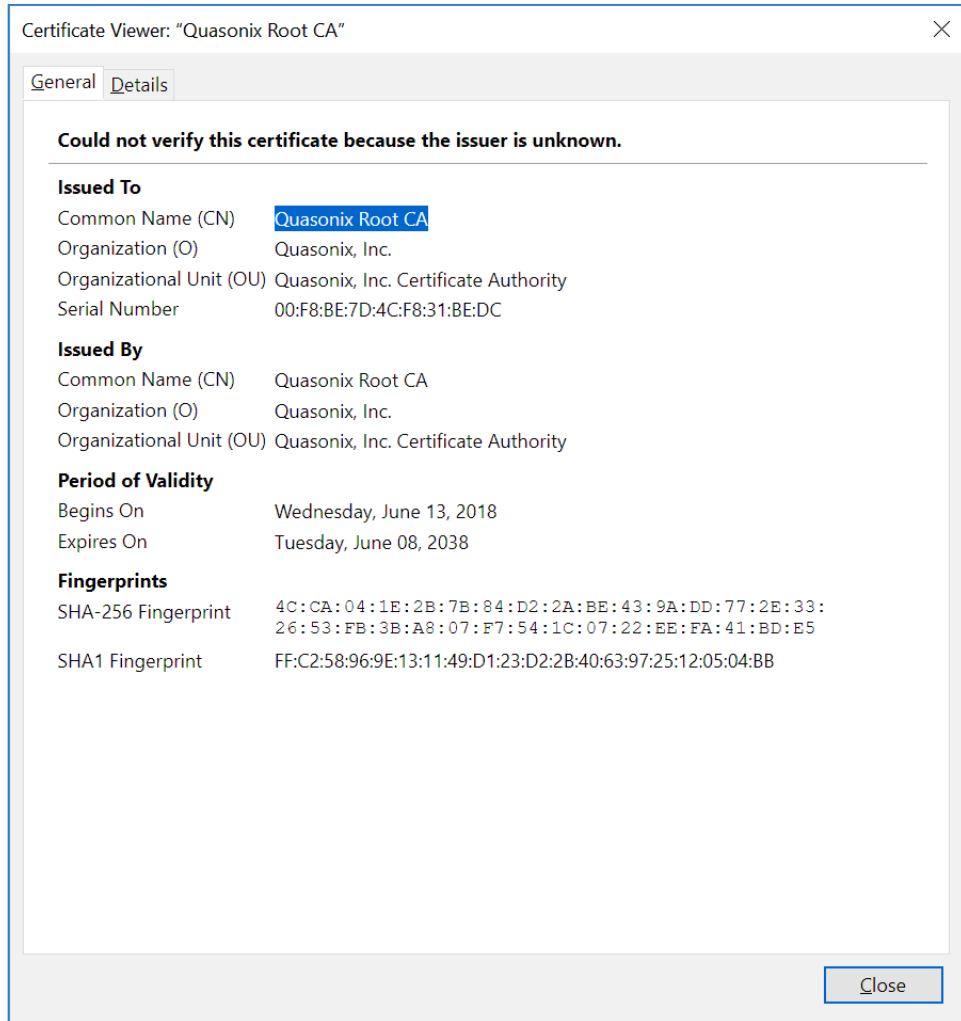

Figure 328: Firefox Certificate Viewer-Quasonix Root CA
8. Click on the View button to examine the certificate. It should match the one shown in Figure 328.